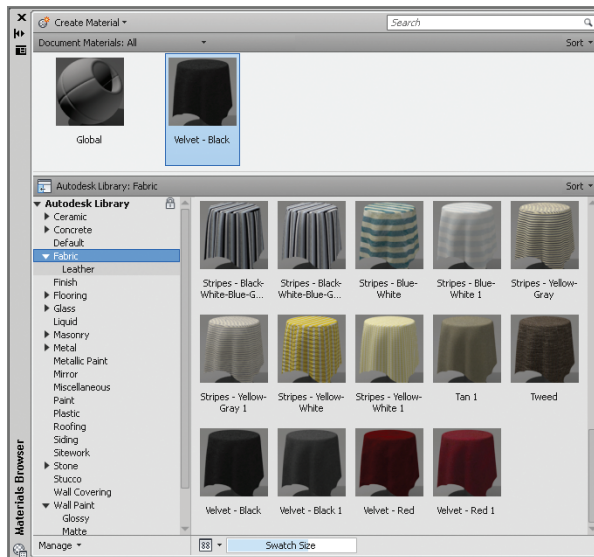

FIGURE 18.2 Loading a material from the Autodesk library into the document
- 3. Select the ribbon’s Render tab, and click the Materials Browser toggle in the Materials panel. In the Materials Browser palette that appears, select the Fabric category in the Autodesk library, scroll down the list of materials in the right pane, and click Velvet – Black to load it into the document (see Figure 18.2).